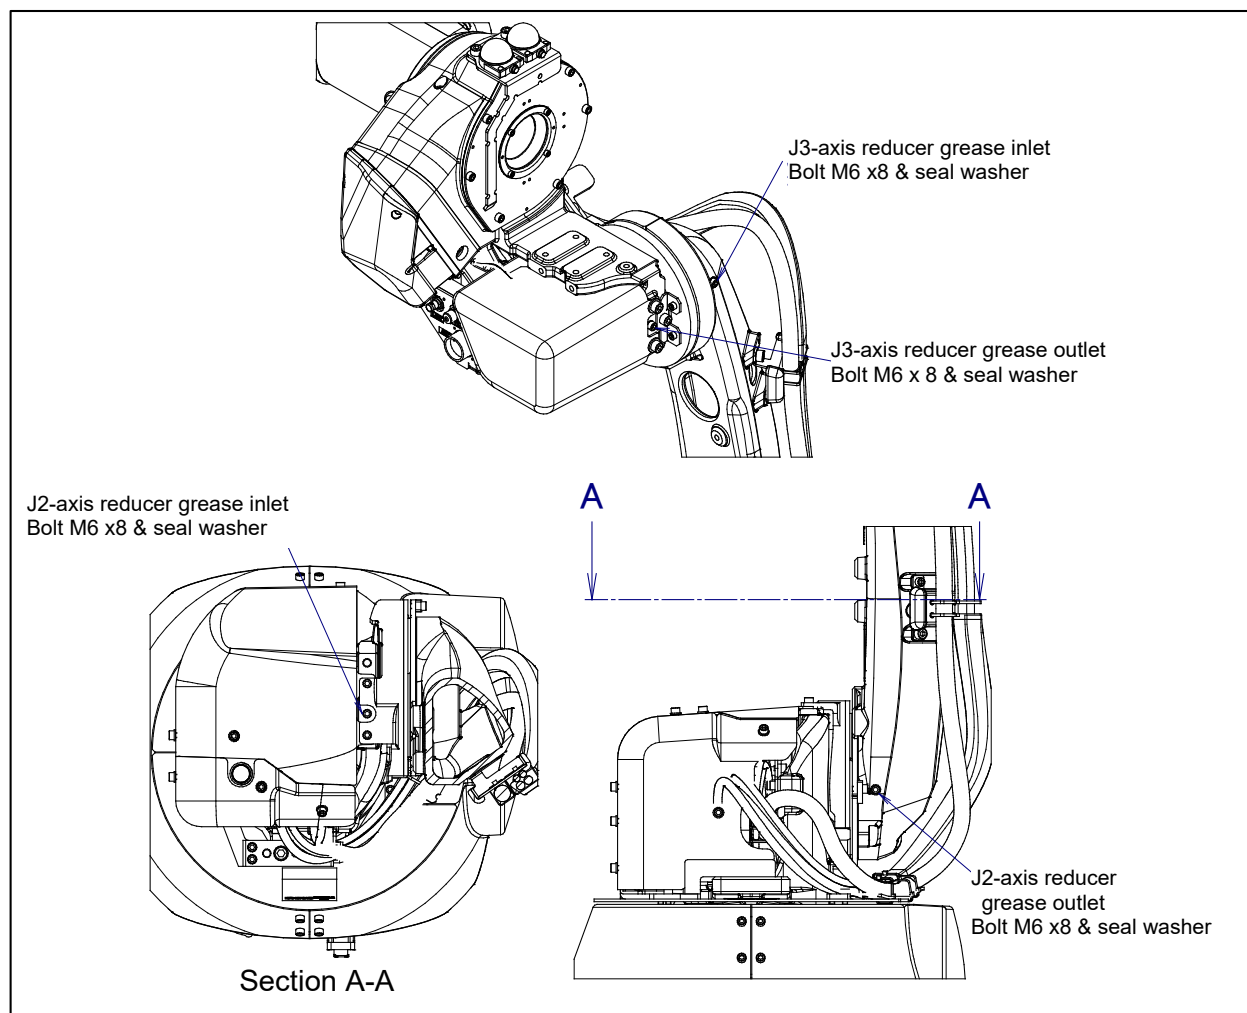

Fig. 7.3.2.1 (a) Greasing point of J2/J3-axis reducer
- 3 Remove the bolt and the seal washer from grease outlet. (Fig.7.3.2.1 (a))